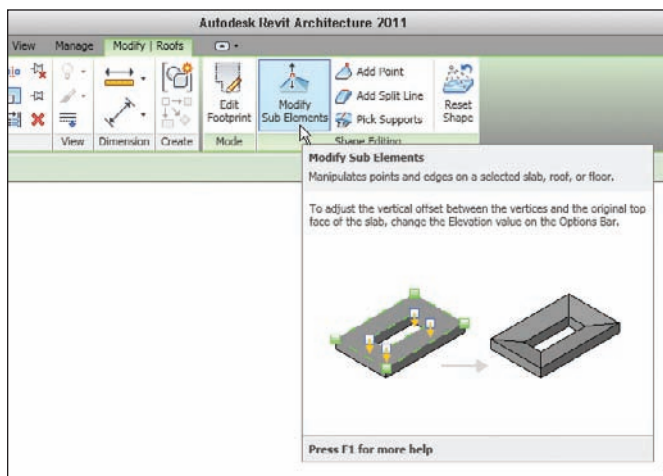

FIGURE 7.7 Click the Modify Sub Elements button to activate the points in the subassembly of the roof.
7. To activate the points in the roof, click the Modify Sub Elements button, as shown in Figure 7.7. This will allow you to modify the points you have picked already.